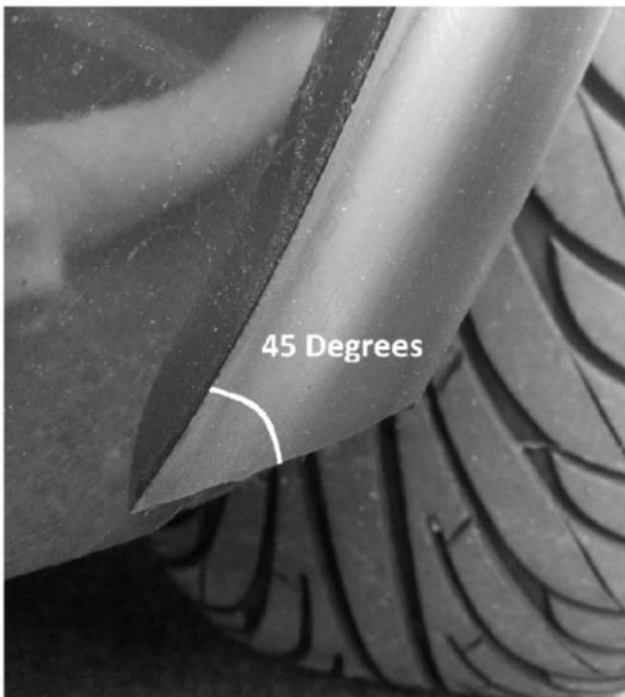

FIG 3
- 4.2 The recommended trimming method is to cut the ends of the extensions back to 45 degrees (FIG 3).